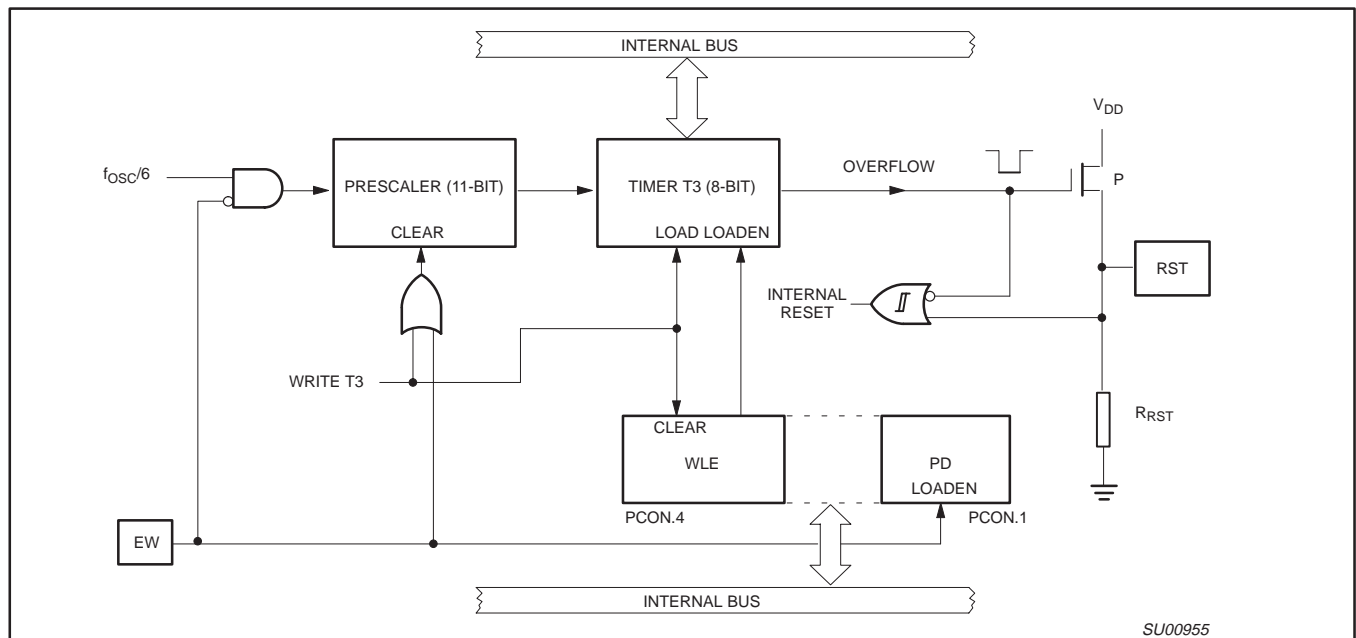

Figure 17. Watchdog Timer
**Watchdog Circuit Description:** The watchdog timer (Timer T3) consists of an 8-bit timer with an 11-bit prescaler as shown in Figure 17. The prescaler is fed with a signal whose frequency is 1/12 the oscillator frequency (1MHz with a 12MHz oscillator). The 8-bit timer is incremented every “t” seconds, where: